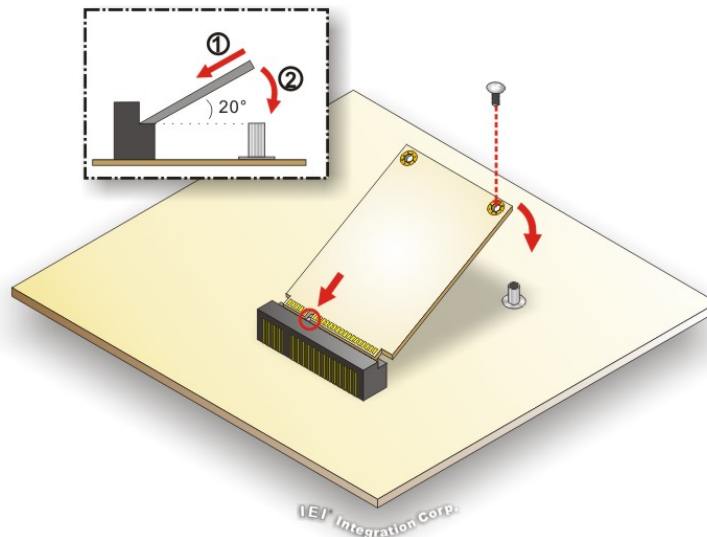

Figure 4-3: PCIe Mini Card Installation (Full-size)
Step 3: Push the other end of the PCIe Mini card down and secure the card with the previously removed retention screw **(Figure 4-3)**.